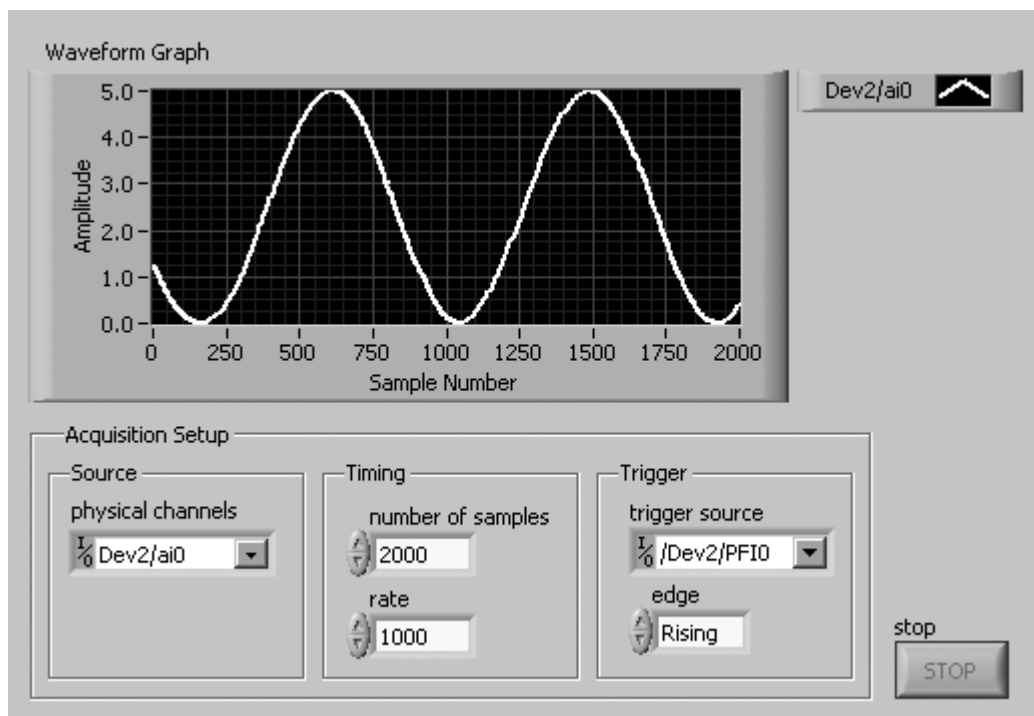

Figure 11.57
1. Build the front panel shown in Figure 11.57.